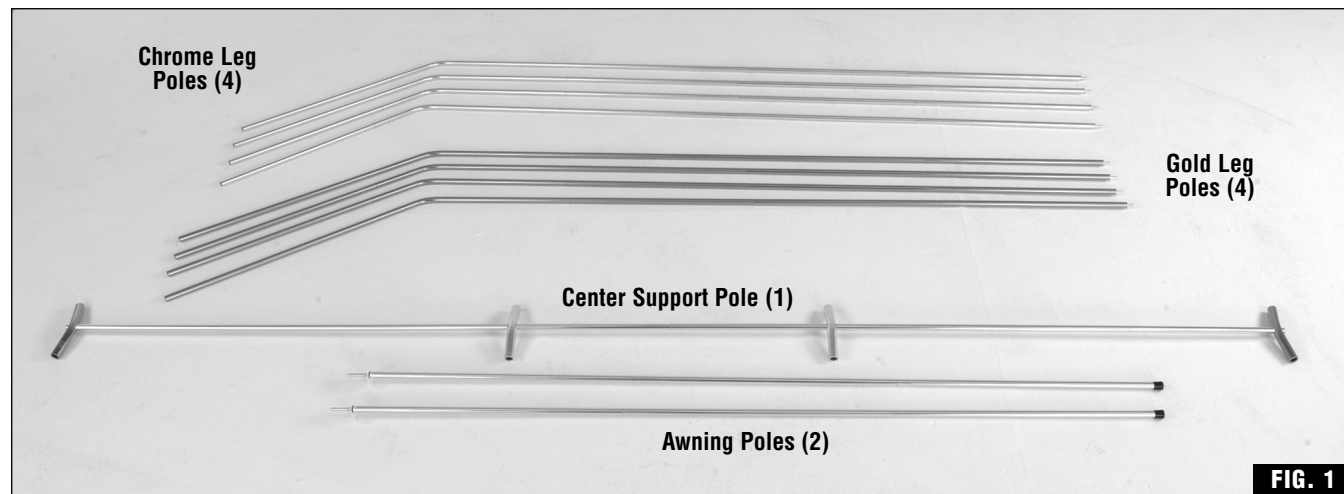

FIG. 1
1. Assemble Center Support Pole, four Chrome Leg Poles, four Gold Leg Poles, and the two Awning Poles. (Fig. 1)